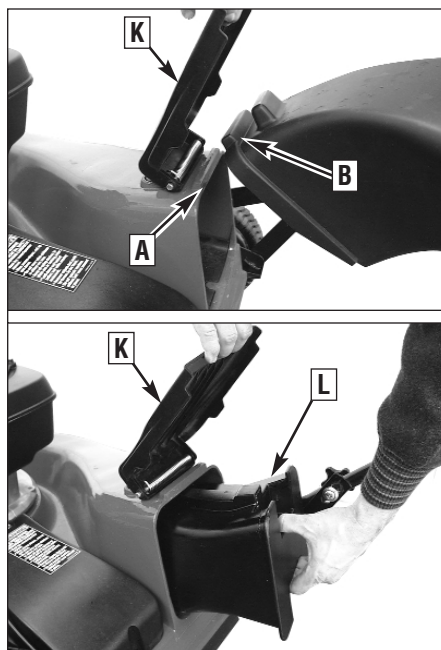

Figure 4-1: TROY-BILT® Rapid Attach™ System.
The Rapid Attach System (Figure 4-1) is a feature designed into the mower deck which enables you to install and remove the Grass Catcher, the Side-Discharge Chute and the Mulching Plug quickly and easily.
The Grass Catcher and the Side-Discharge Chute both use the same system. This system consists of an elongated tab (A, Figure 4-1) on the top of the discharge outlet and a receptacle (B) built into the top of the Grass Catcher door and the Side-Discharge Chute.
Attaching the Mulching Plug is just as easy. Hold open the discharge outlet guard (K, Figure 4-1) and insert the plug (L), with the word "TOP" facing up, into the discharge outlet.
2. Lift open the discharge outlet guard (K, Figure 4-1).
2. Lift open the discharge outlet guard (K, Figure 4-1) and lower the Side-Discharge Chute opening (B, Figure 4-1) onto the discharge outlet tab (A). Make sure it covers the tab completely.
1. With the engine and blade stopped, lift open on the discharge outlet guard (K, Figure 4-1).